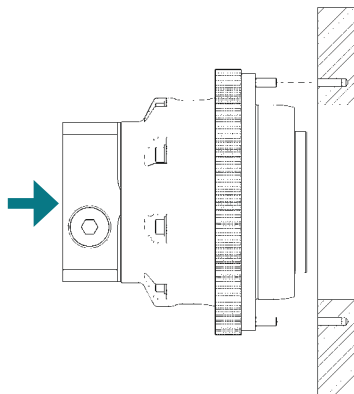

Fig. 1
1. Insert the gearbox into the machine (Fig. 1)